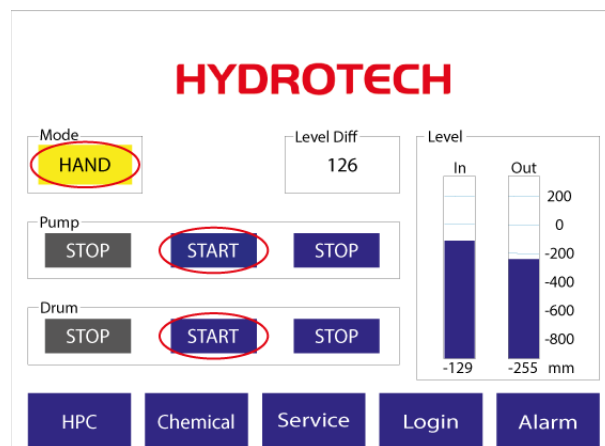

Figure 5.4 Main menu on electrical cabinet operator panel.
2. Once the mode selector has been turned to HAND, “HAND” will be shown in the operator panel main menu, see Figure 5.4. Press the drum “Start” button - see Figure 5.4.
3. Press the pump “Start” button - see Figure 5.4.